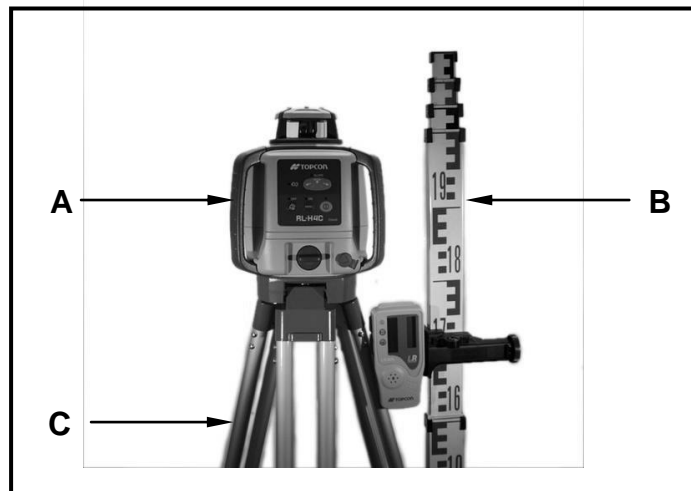

FIGURE 1.2
1.2 FIGURE 1.2 below shows a surveying tool used on a construction site